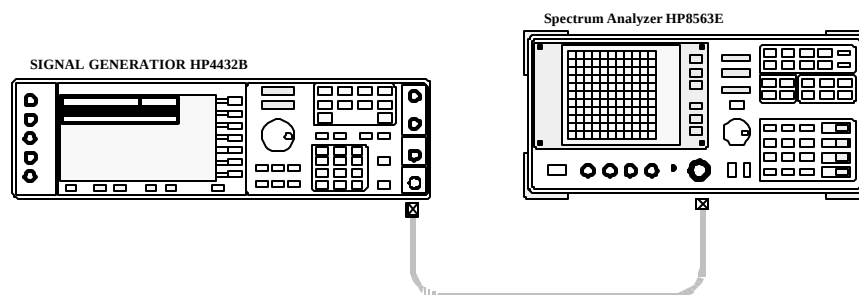

Figure 1 Signal Generator Calibration Configuration for Forward Link
- 1) Set System as follow Figure 1.